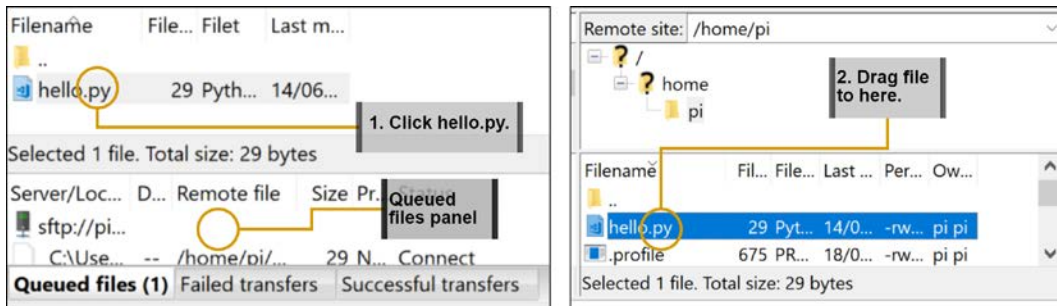

Figure 5.3 – Transferring a file
10. Now click `hello.py`, highlighted at the top left of *Figure 5.3*, and drag it to the lower right-hand panel to put it on the Raspberry Pi:
11. When you drag the file over, you should see it in the **Queued files** section, as shown in *Figure 5.3*. Since this file is small, it will only be in this queued state for an instant. You can also use the same system for whole folders. You'll soon see the file over in the remote site (the Raspberry Pi), shown on the right-hand panel in *Figure 5.3*.